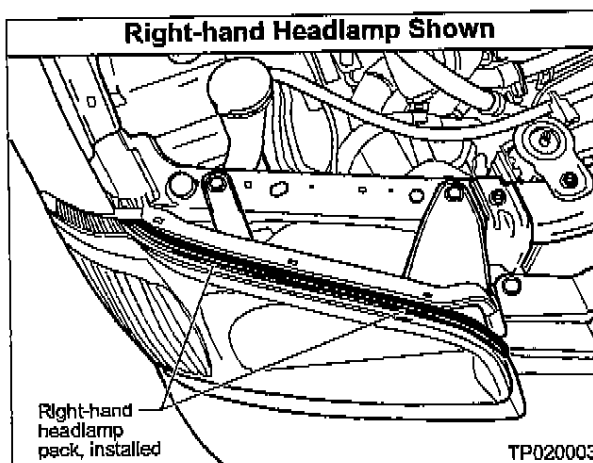

Figure 8
- C. Place the Right-hand Headlamp Pack into the Right-hand Headlamp Pack channel and press it into place (see Figure 8).